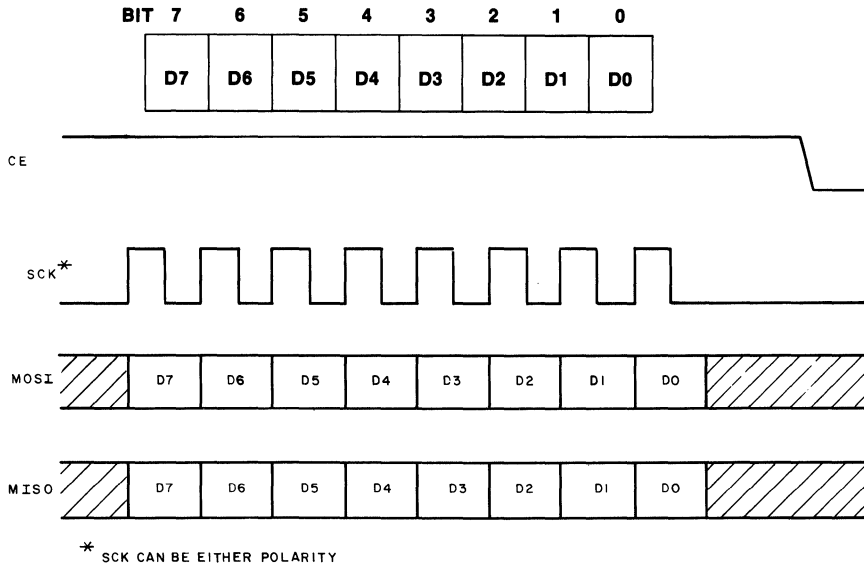

Fig. 9 - Read/Write data transfer waveforms.
2. READ or WRITE Data - Fig. 9
READ/WRITE DATA - (See Fig. 9.)